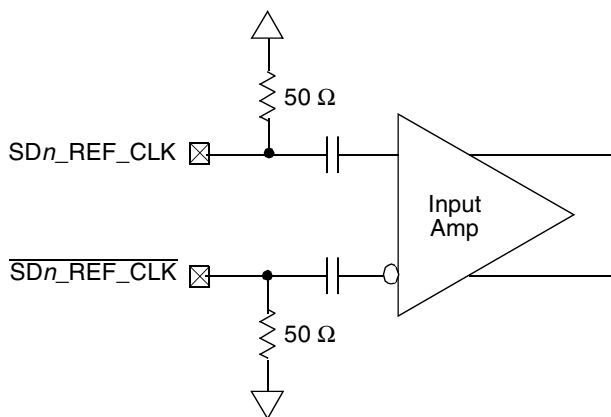

Figure 55. Receiver of SerDes Reference Clocks
Figure 55 shows a receiver reference diagram of the SerDes reference clocks.
- The $\text{SD}n_{\text{REF_CLK}}$ and $\overline{\text{SD}n_{\text{REF_CLK}}}$ are internally AC-coupled differential inputs as shown in Figure 55. Each differential clock input ($\text{SD}n_{\text{REF_CLK}}$ or $\overline{\text{SD}n_{\text{REF_CLK}}}$) has a 50Ω termination to $\text{SGND_SRDS}n$ (xcorevss) followed by on-chip AC-coupling.